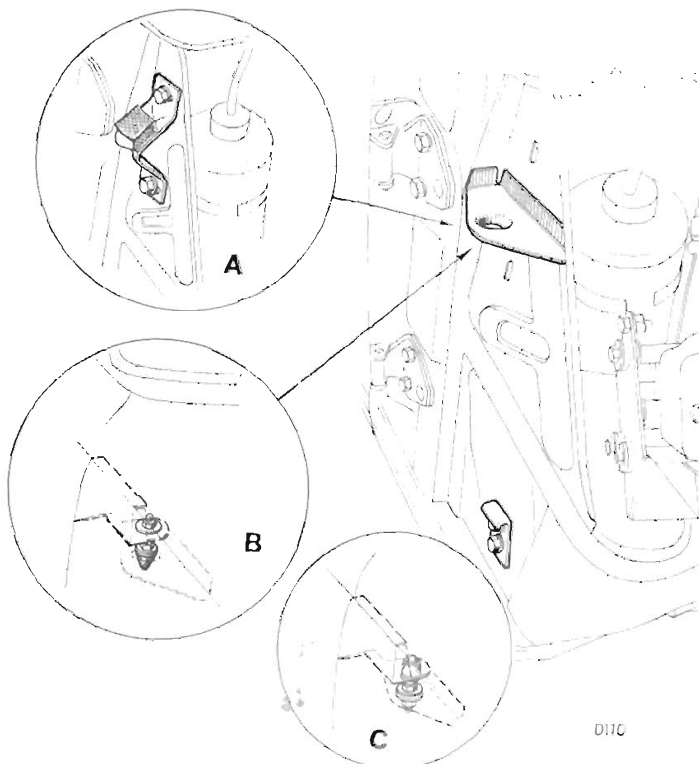

Fig. 12. Bonnet height adjusters (all models)
Lift or lower the front of the bonnet until parallel clearance between the bonnet and door is obtained. Tighten the link bolts (7) and (8). During this movement, the rear of the bonnet will pivot on the bracket shown arrowed on Fig. 12.
**Height Adjustment (Fig. 12).**